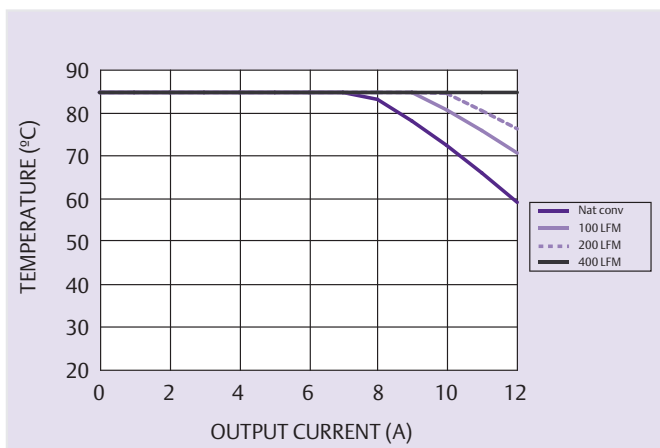
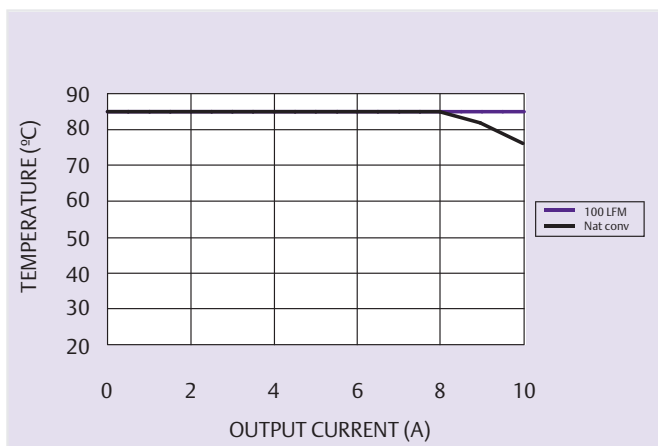

Figure 1 - Safe Operating Area
Figure 6 - Safe Operating Area
- See Figures 1, 2 and 3 for safe operating curves for the PTH12010W and Figures 6 and 7 for PTH12010L.